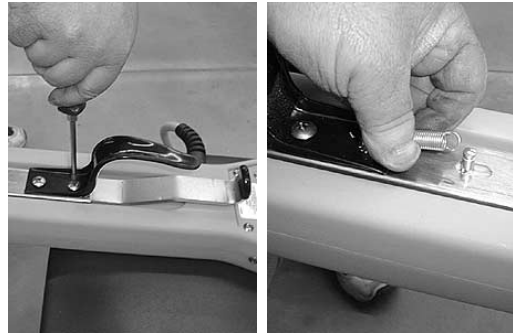

Fig. 10
12. Remove (2) power cord hooks from handle. Disconnect spring from lower hook (Figure 10).